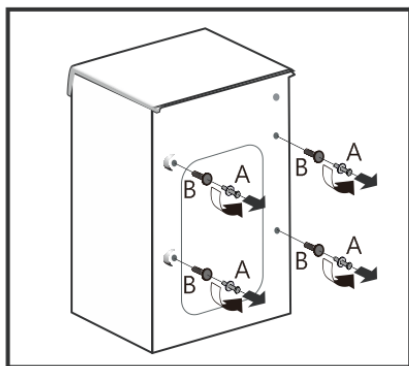

Figure 1
2. Disassemble the 4 shipping bolts, rubber pads and plastic rods (see Figure 1). If the shipping bolts are not disassembled, they may cause intense vibrations, noise and faults. The shipping bolts shall be installed every time before the washing machine is transported.